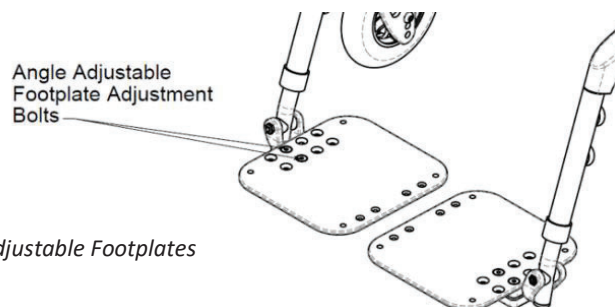

Figure 14.15: Angle Adjustable Footplates
1. Release the leg length adjustment lever. This is shown in Figure 14.15.